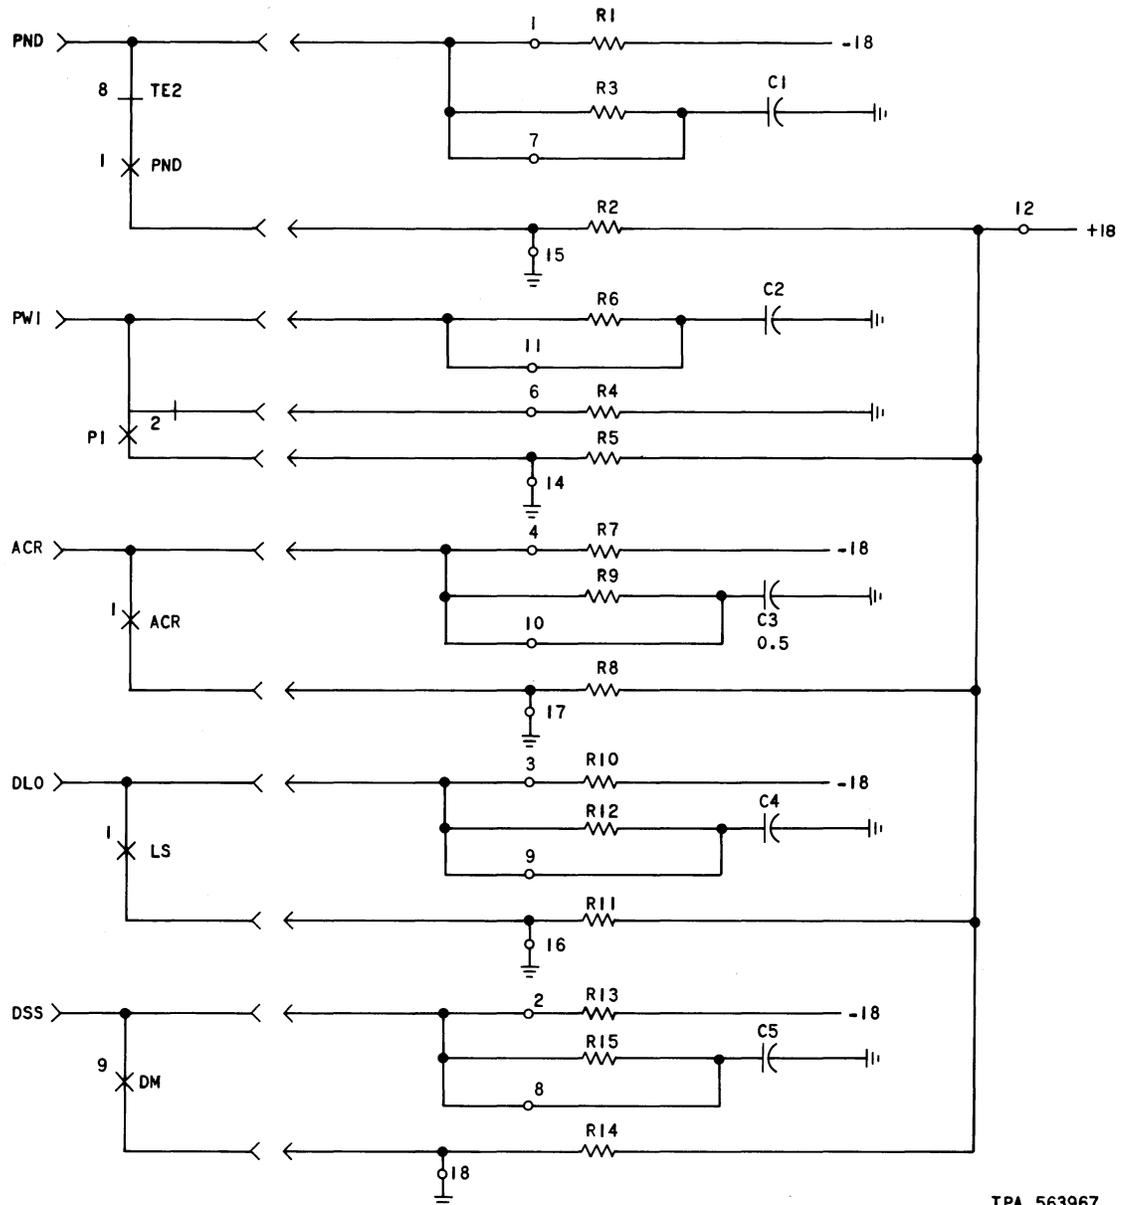

Fig. 8—Interface Circuits—Schematic Diagram
4.04 The interface circuits are located on CP AS14. Figure 8 illustrates a schematic diagram. This circuit pack contains five interface circuits, a transistor switch, and miscellaneous components. The interface circuits provide a business machine with either a contact interface or a voltage interface.